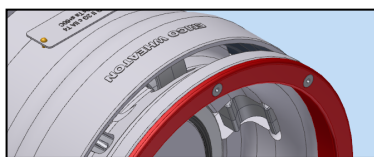

Fig. 6
- Using a solvent, thoroughly clean the bore and nosepiece seal grooves. Make sure all grit is removed. Carefully assemble New Quad Seal (30) & Nose Piece Seal (8) into the Grooves. Apply Parker Super Lube (or equivalent) to outside of Nose Piece Seal once assembled.
- If shaft seal needs replacing, go to steps 9-12 before reattaching poppet and bent links. If not then reassemble, reversing the above steps. Once Coupler is fully reassembled pull back Retractor Handle (6) pulling the Coupler Sleeve back into the Uncoupled Position (Fig. 6). The Coupler is now ready for use.
30. Once Coupler is fully reassembled pull back Retractor Handle (6) pulling the Coupler Sleeve back into the Uncoupled Position (Fig. 6). The Coupler is now ready for use.
38. Turn Lever (3) back to the closed position and pull back Retractor Handle (6) pulling the Coupler Sleeve back into the Uncoupled Position (Fig. 6). The Coupler is now ready for use.
44. Reverse Step 42 then pull back Retractor Handle (6) pulling the Coupler Sleeve back into the Uncoupled Position (Fig. 6). The Coupler is now ready for use.